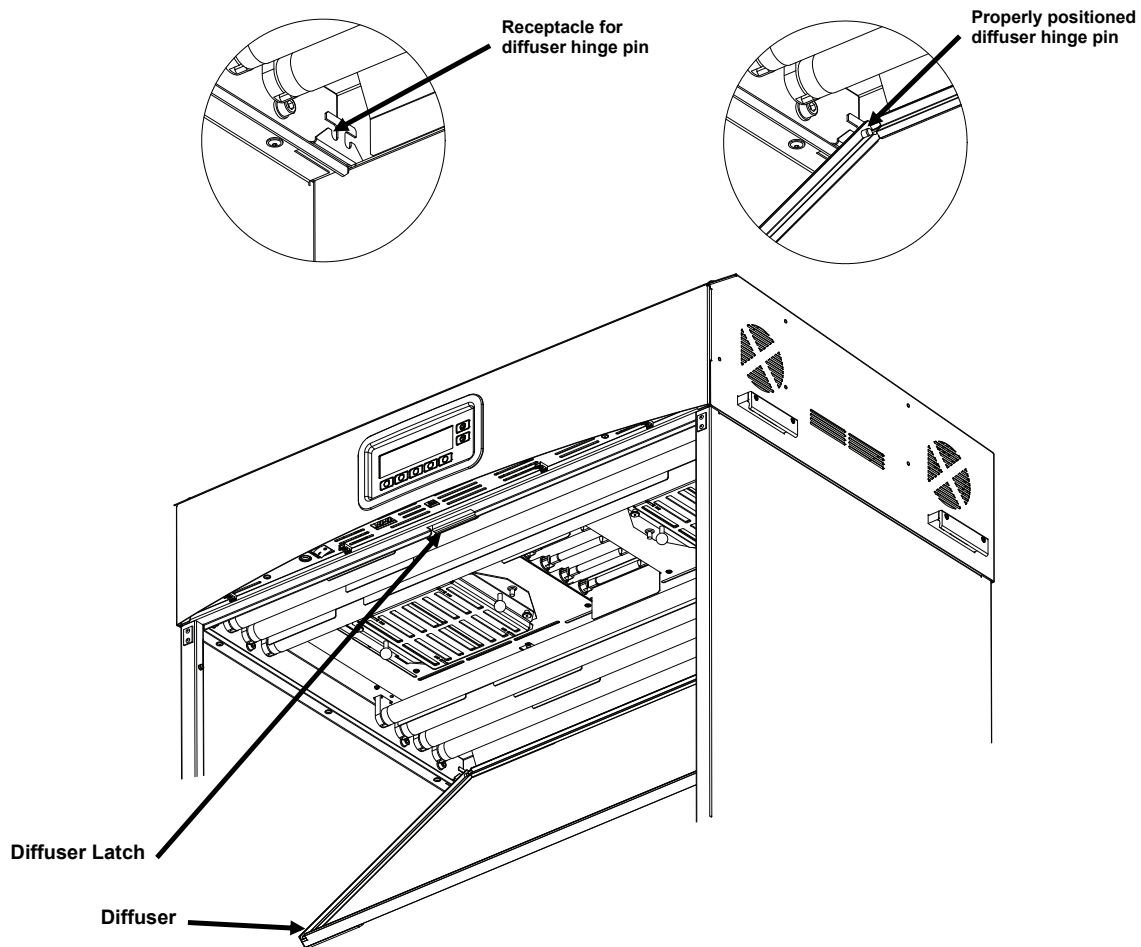

Figure 7. Luminaire Showing Diffuser
9. Insert the diffuser hinge pins at each back corner into the front slot of the receptacles located at the rear corners of the luminaire housing. Refer to Figure 7.